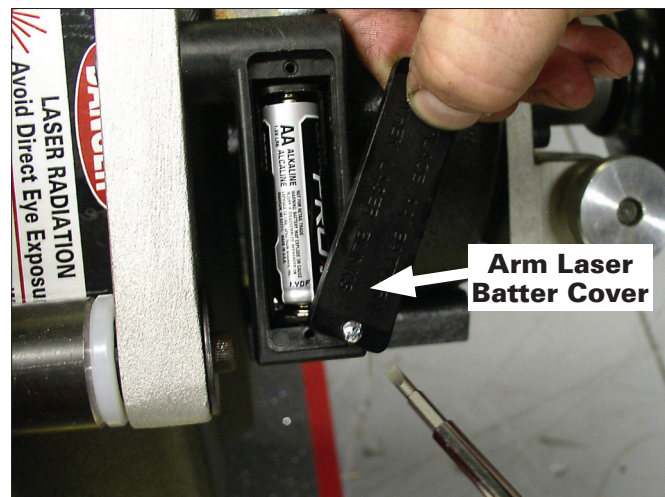

Figure 23 - Replacing Arm Laser Battery
6. To replace Arm Laser battery, remove cover (fig. 23). Discard old battery. Install a new battery and replace the cover.